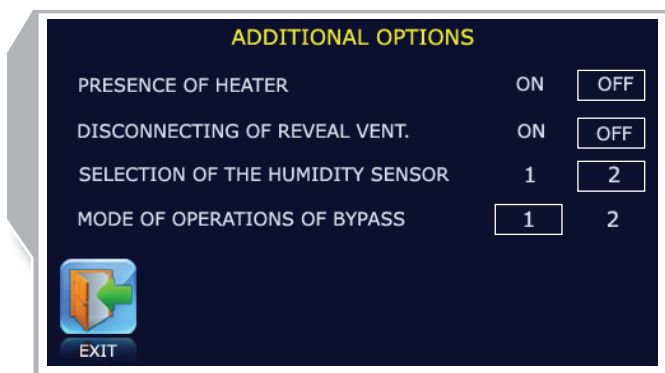

Fig. 21. Extra functions
- To activate or deactivate the electric heater, press **ON** or **OFF** button in the **HEATING CONTROL** menu (fig. 21).